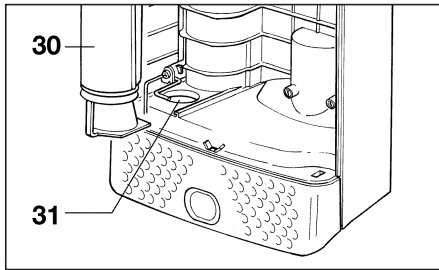

Figure 8
Changing the Micro Filter - Figure 8
3. Microfilter not properly inserted.	3. Re-insert filter (see pg.8, figure 8).